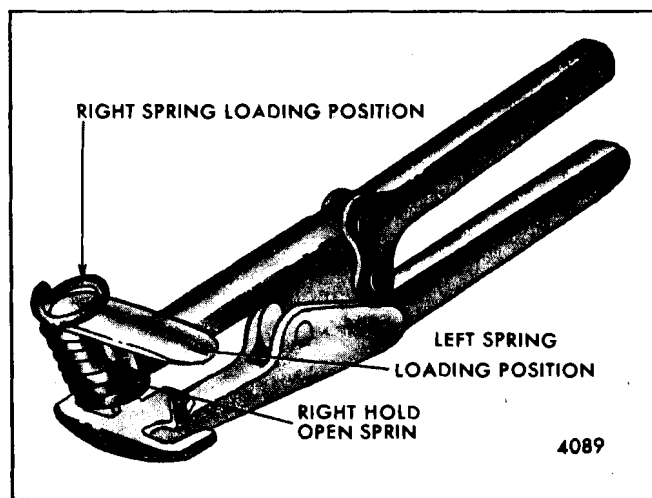

Fig. 6-51-Hold-Open Spring, Loading Positions Using Tool (J-23497 or equivalent)
2. Using spring compressing tool (J-23497 or equivalent), install hold-open spring in lower hinge (Figs. 6-51 and 6-52).
the blade on the straight jaw. Figure 6-51 illustrates position of spring for right side installation (left side installation would utilize the other end of the blade). The other end of the spring should be seated over the hook on the opposite jaw of the tool.